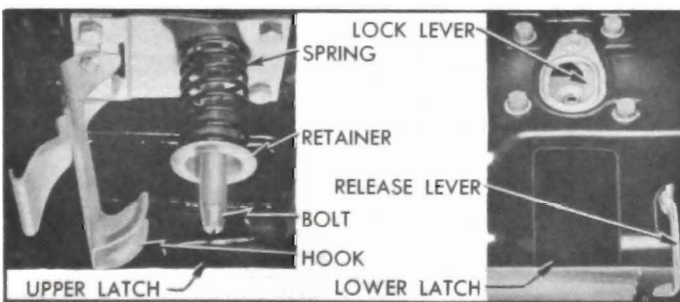

Figure 12-4—Hood Latch and Dovetail Bolt
The front end of hood is locked down by a dovetail bolt on hood which engages a lock lever in the latch mounted on a panel of the front end sheet metal assembly. Proper tension on the latching parts is maintained by a spring and retainer which surrounds the dovetail bolt (fig. 12-4). The hood is unlocked by lifting a release lever located beneath radiator grille frame. A safety hook mounted on the hood must
(2) *Hood Latch Dovetail Bolt.* The dovetail bolt may be turned to move up or down when the locknut on the upper end is loosened. See figure 12-4. The bolt should be adjusted so that the head engages under the lower latch lock lever without excessive vertical play when the front end of hood rests firmly on the rubber bumpers mounted on the hood lower latch panel.
(3) *Hood Lower Latch.* Slotted bolt holes in the lower latch permit sidewise movement of the latch to provide proper alignment with the dovetail bolt in hood. See figure 12-4. The latch must be set so that the dovetail bolt enters without sideward strain or other interference. The latch must not be used to force the nose of hood into alignment with fenders as difficulty in unlocking the hood may result. Proper sidewise alignment of hood should be obtained by adjustment of hood hinges.